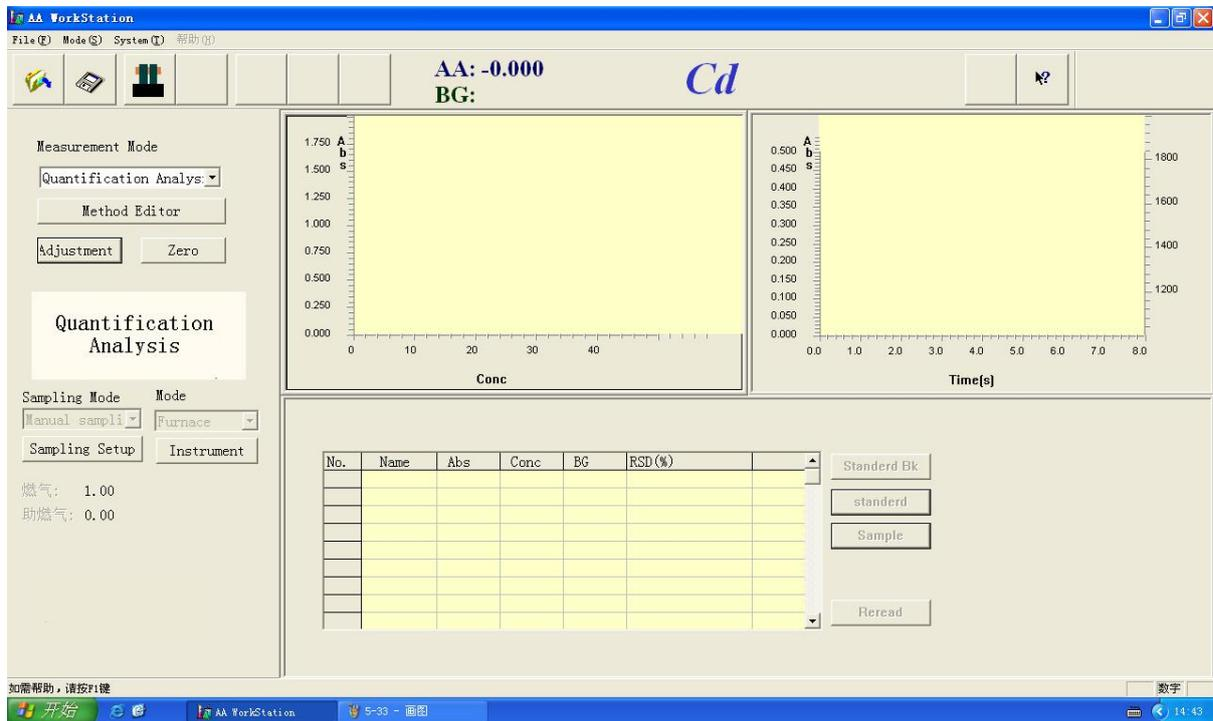
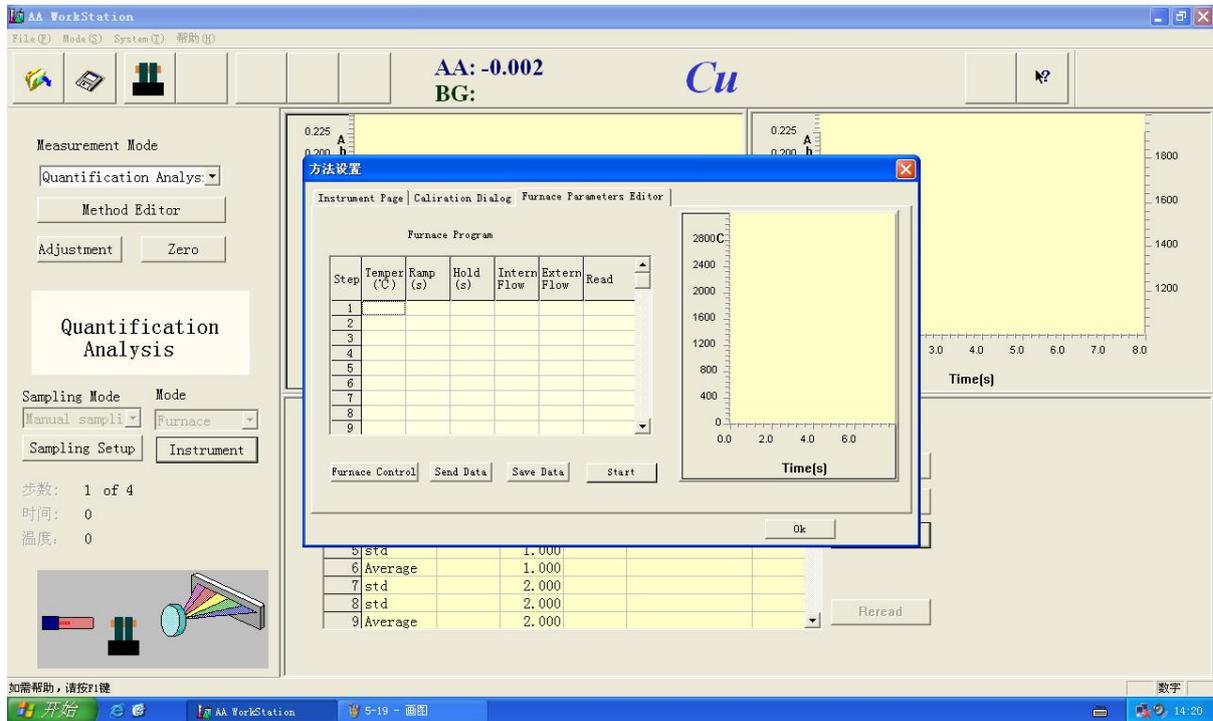
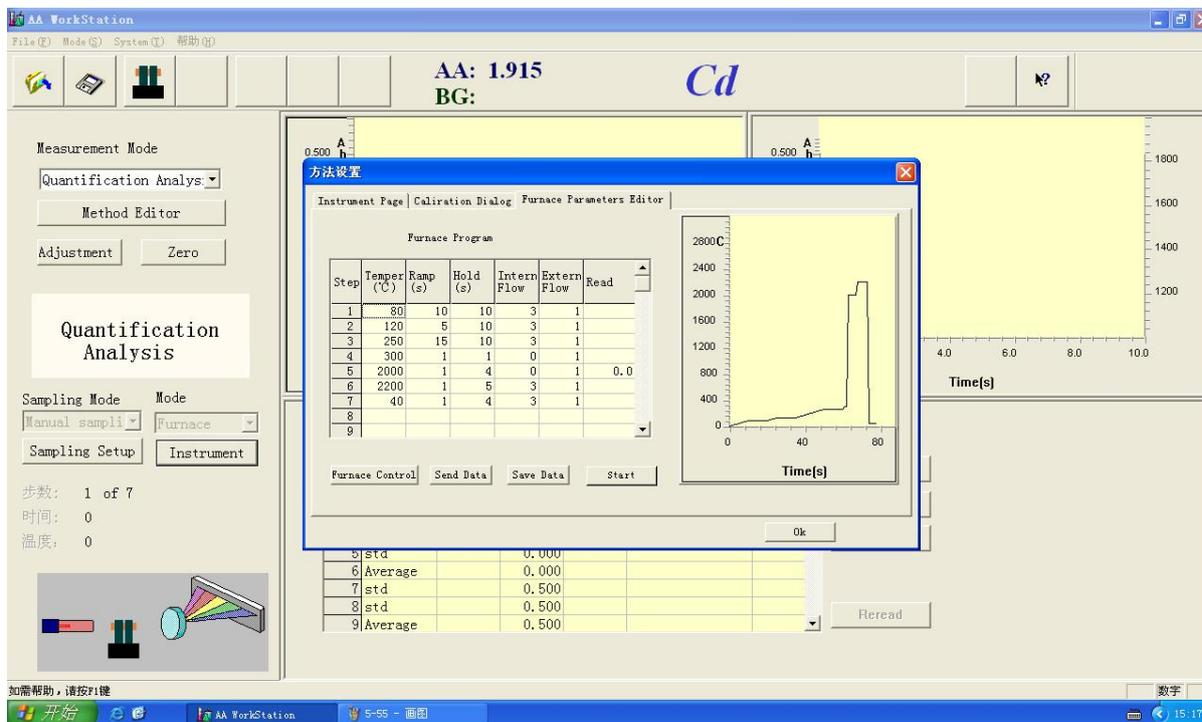

Figure 5-38
Figure 5-39
Figure 5-60a
6. Press **【OK】** ,close the dialog,”Unknown Sample”brighten,figure 5-38
7. Press **【Instrument】** (Figure 5-38),”Furnace Parameters Editor” is displayed,see Figure 5-39
7. Press 【Instrument】 (Figure 5-38),"Furnace Parameters Editor" is displayed,input program,see Figure 5-60a